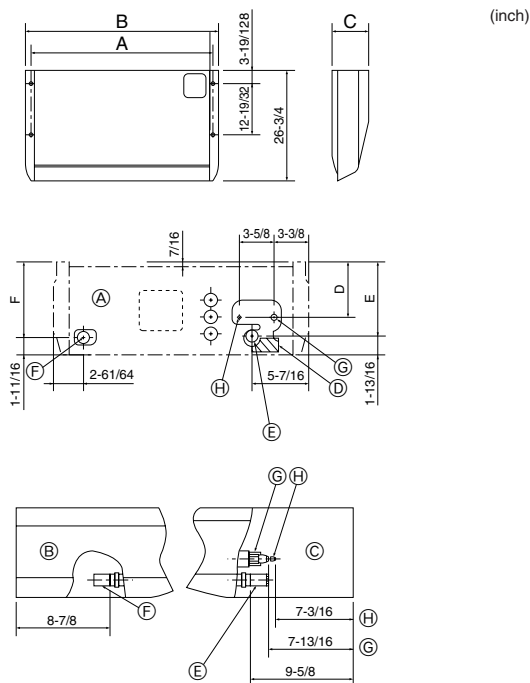

Fig. 3-2
①	Washer	4 pcs
②	Pipe cover	1 pc Large size (For gas tubing)
③	Pipe cover	1 pc Small size (For liquid tubing)
④	Band	4 pcs
⑤	Joint socket	1 pc Marked with "UNIT"
⑥	Socket cover	1 pc
⑦	Drain tubing cover	1 pc
⑧	Flare nut P36	1 <3/4" (ø19.05)>
3.2. Preparation for installation (Fig. 3-2)